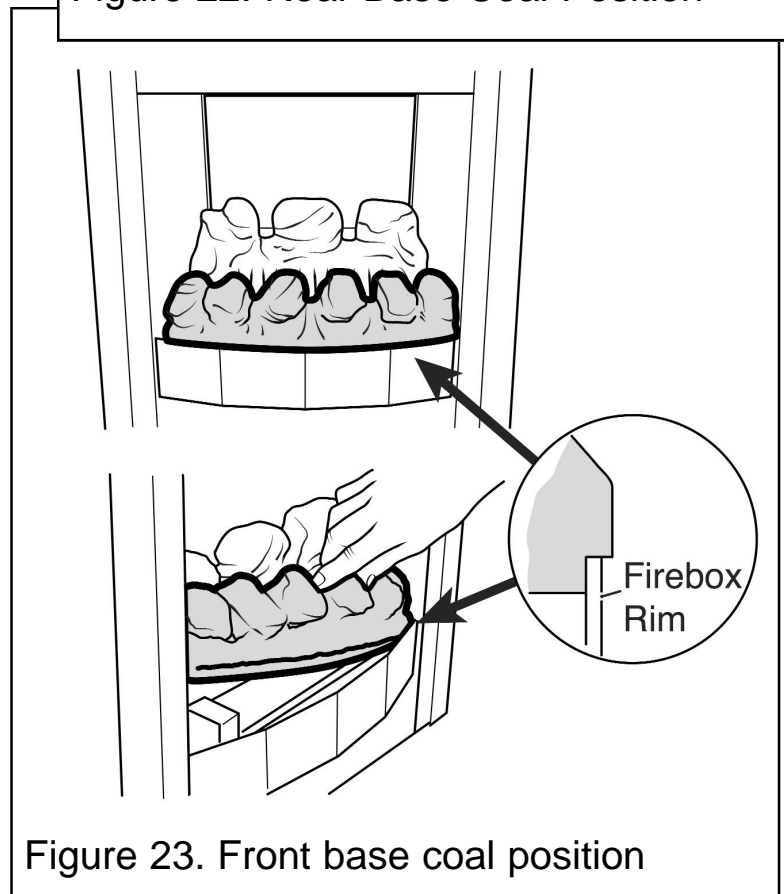

Figure 23. Front base coal position
2. Place the front base coal in the firebox with its bottom front locating over the front rim of the firebox. Pull the coal forward so that it locates immediately behind the front rim of the firebox. (See figure 23). The front base coal will touch the rear base coal as it is located.